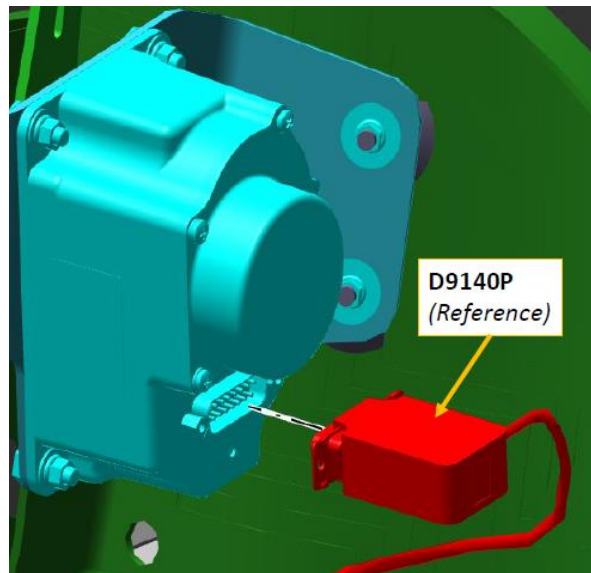

Figure 23 D9140P Roll Servo Connector
3. Remove the Roll Servo connector, D9140P (see figure 23)